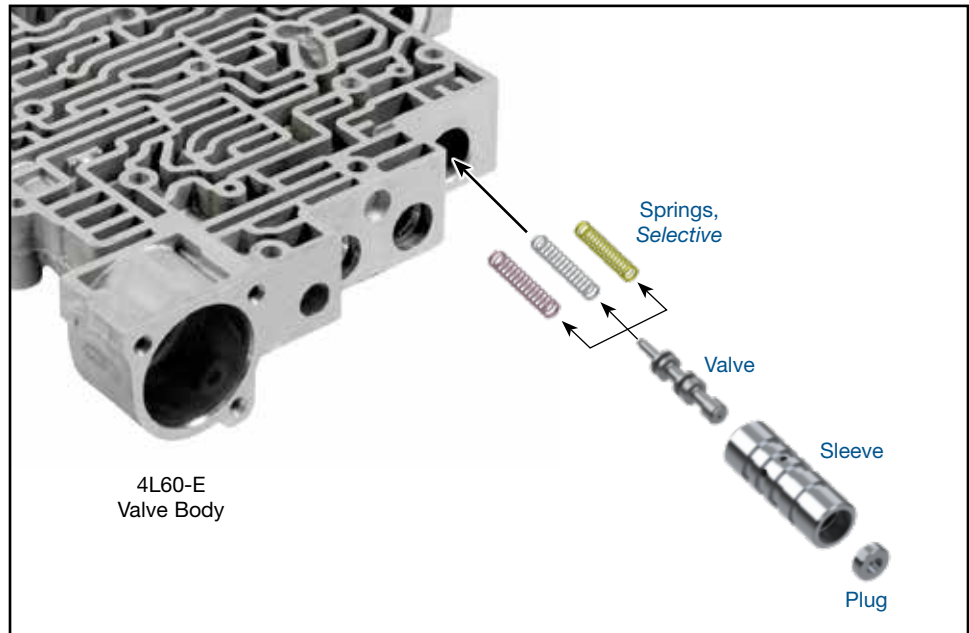

Figure 1
- Springs (3) Selective
**NOTE:** Fits valve trains with sleeve stamp codes CX, DX or YZ only (**Figure 1**).
- Take note of the identification mark on end of the OE sleeve (**Figure 1**).
- Select one of the three Sonnax springs which corresponds to the mark on the end of the OE sleeve to obtain desired shift quality (**Figure 1**).